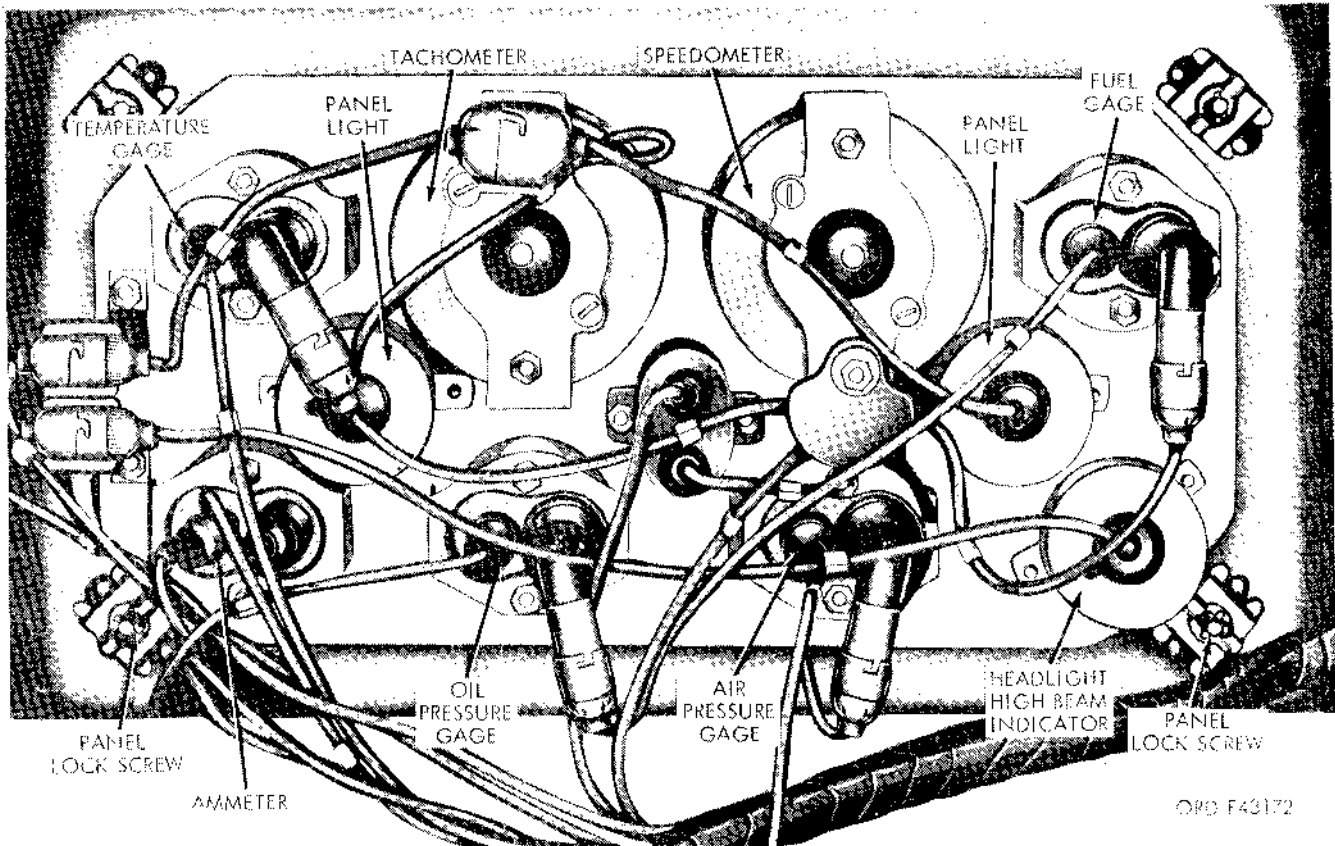

Figure 2-33. Instrument cluster—rear view.
c. With the ignition switch turned to OFF, disconnect the No. 27 lead from the back of the gage (fig. 2-33).